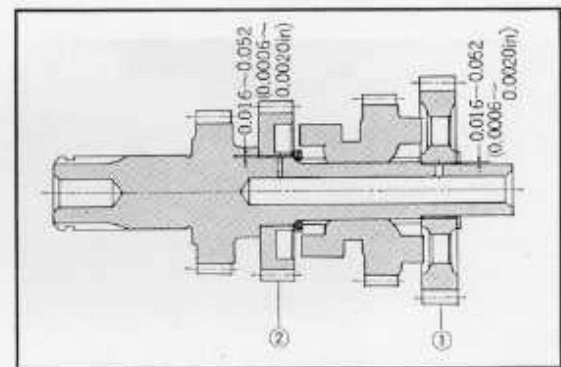

Fig. 3.100 Counter shaft to gear clearance
- ① Main shaft second gear
② Main shaft top gear
2. Counter shaft to counter shaft gear clearance (Fig. 3.100)